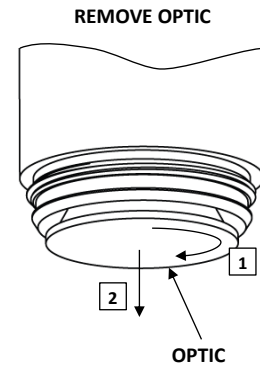

Fig. 2
2. To remove. Turn OPTIC about 45° and pull out. Fig.2.